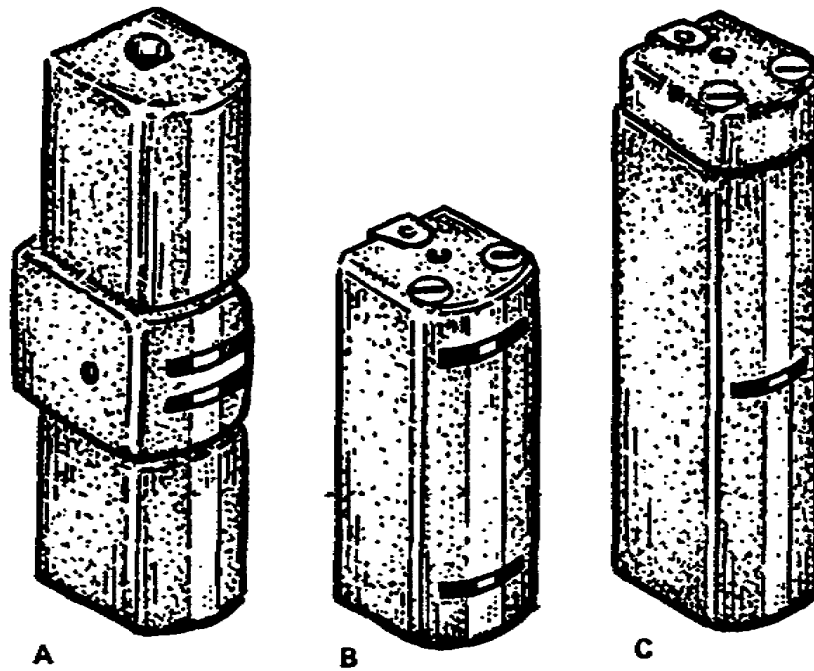

Figure 1-15. Audio erase head configurations
b. Audio erase head. An electromagnetic head (fig 1-15) is constructed in several configurations, and may cover the entire width of the tape or a small portion. The active portion of the head is just wide enough (a few mils) to cover the space for audio recording plus a guard band on each side of the audio track.